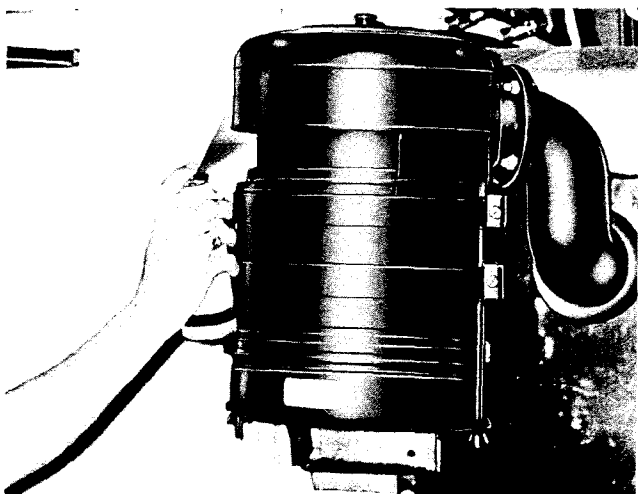

Fig. 2-6. Ether spray application
2. As an alternate method, spray ether into air cleaner intake while second man cranks the engine. Fig. 2-6.